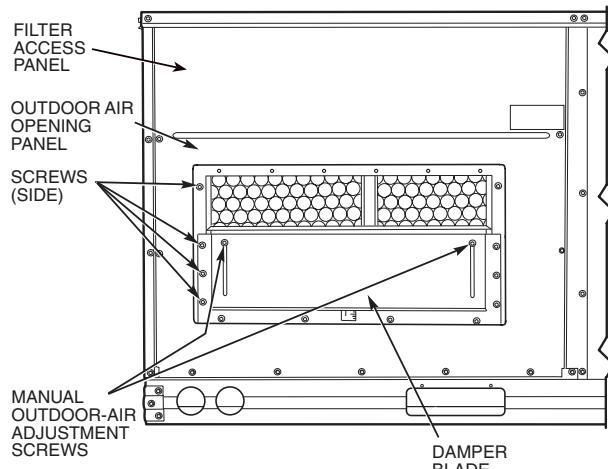
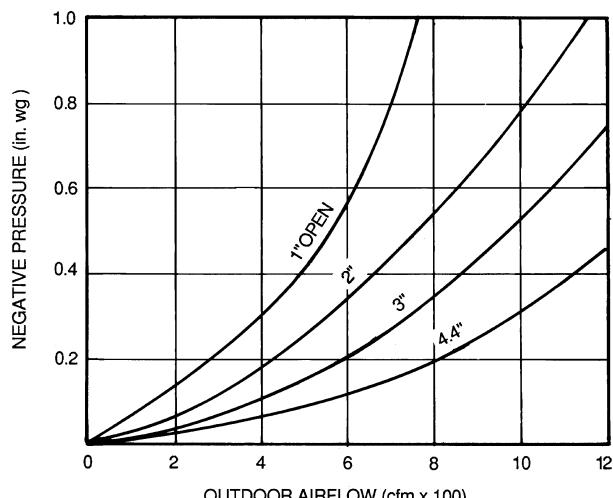

Fig. 15 — Damper Panel with Manual Outdoor-Air Damper Installed
Fig. 18 — Outdoor Air Damper Position Setting
2. Remove filter access panel by raising panel and swinging panel outward. Panel is now disengaged from track and can be removed. No tools are required to remove the filter access panel. Remove outdoor-air opening panel. Save panels and screws. See Fig. 15.
8. Adjust minimum position setting of the damper blade by adjusting the manual outdoor-air adjustment screws on the front of the damper blade. See Fig. 15. Slide blade vertically until it is in the appropriate position determined by Fig. 18. Tighten screws.